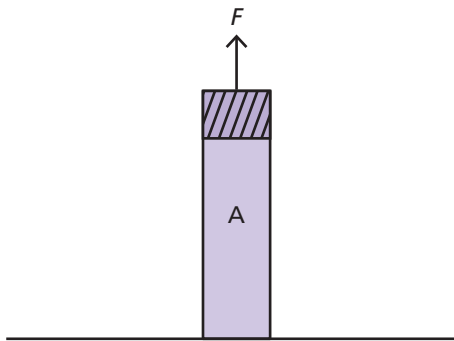

Figure 1.6 A bar whose length has increased after being subjected to tensile strain
Figure 1.6 shows a bar (A) whose length has increased after being subjected to tensile strain.